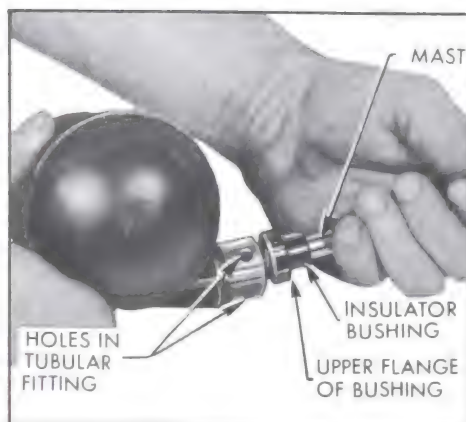

Figure 11-15—Removing and Installing Mast and Insulator Bushing
7. Holding antenna drive in one hand and the mast in other hand, pull with a rocking motion, until the insulator bushing and mast are free from the tabular fitting of antenna drive (see Figure 11-15).
22. Push 0.400 inch diameter section of mast and insulator bushing into tubular fitting (see Figure 11-15). Make sure that the upper edge of insulator bushing flange is below the 3 holes in the tubular fitting of antenna drive.